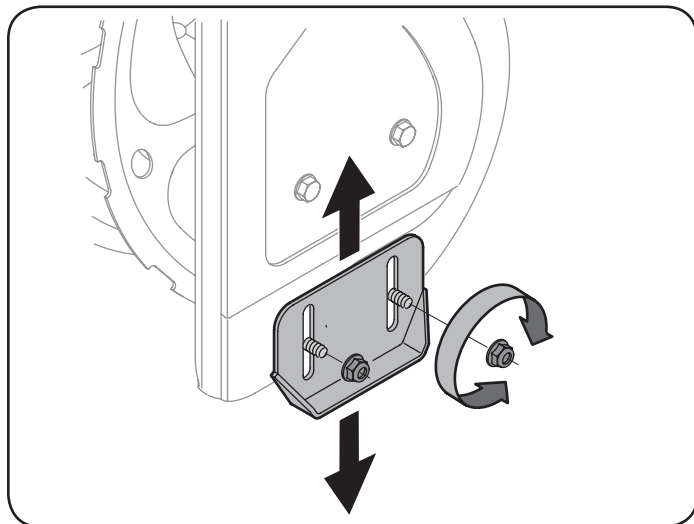

Figure 6
1. Loosen the four hex nuts (two on each side) and carriage bolts. Move skid shoes to desired position. See Figure 6.